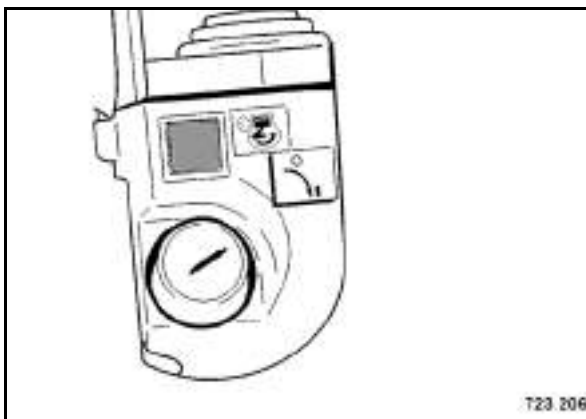

Fig. 37
- Press the start button to start the engine (Fig. 37).